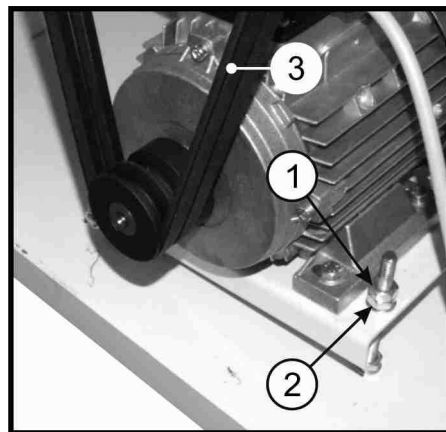

Figure 18
To adjust the tension of the belts ref. 3, proceed as follows (refer to Figure 18:
2. Loosen the lock nut ref. 1
3. Fasten nut ref2
4. Once the adjustment has been carried out, fasten the lock nut ref1
To replace the chains, proceed as follows (refer to Figure 18: